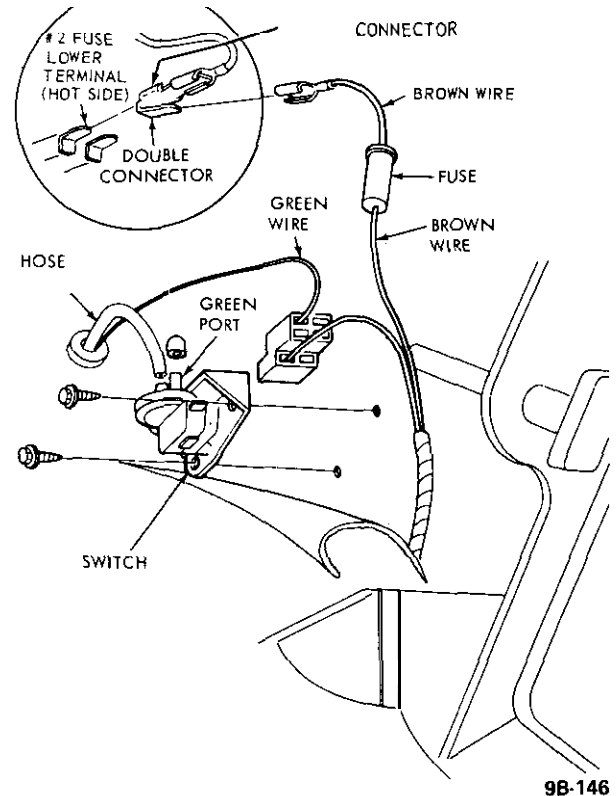

Figure 9B-146 Vacuum Switch
2. Remove the retaining screws from the duct assembly. See Figure 9B-190.